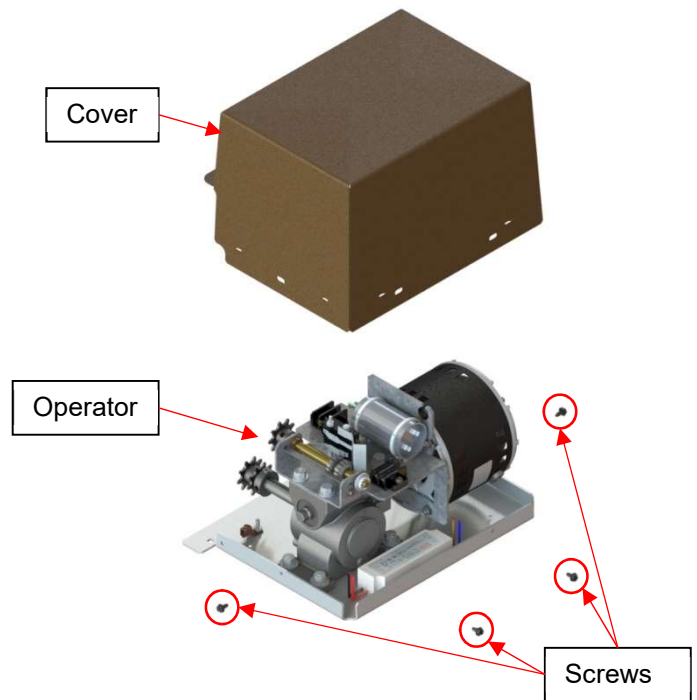

Figure 10
- 2) Remove the four screws at the bottom of the operator cover and take the cover off. (Figure 10)
- 6) Reinstall the operator cover with the four screws. (Figure 10)